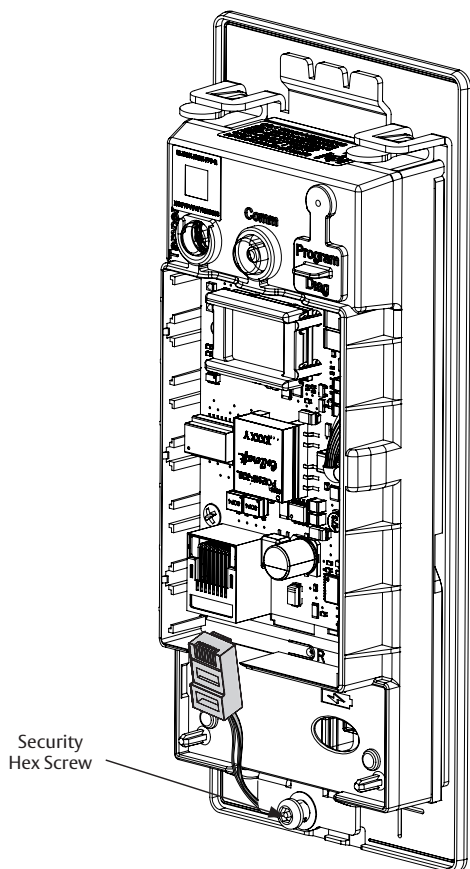

Figure 6-5A
NOTE: Before inserting PoE plug into connector, apply dielectric grease to top of plug, covering the pin area. (Figure 6-5A)
1. Once controller is securely in place, connect RJ45 male connector to female RJ45 port on controller board. (Figure 6-5A)